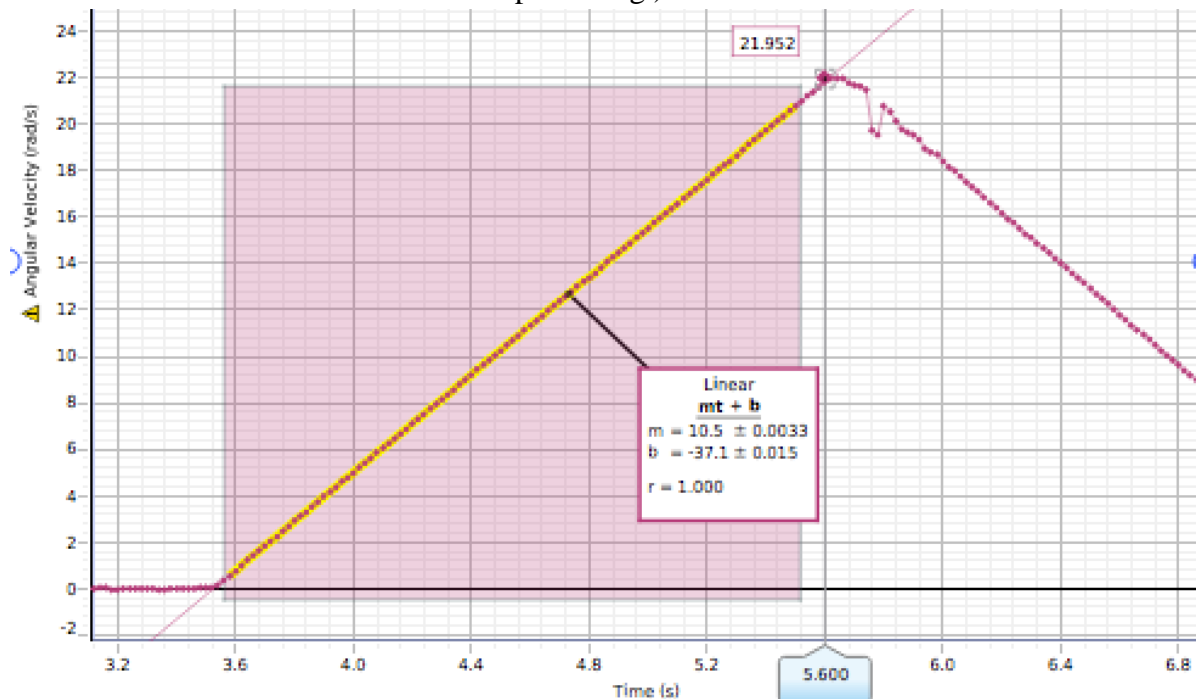

Figure 5 - Gravitational potential energy to kinetic energies.
3. Your angular velocity vs time plot should look like the figure 5 below. Identify the point